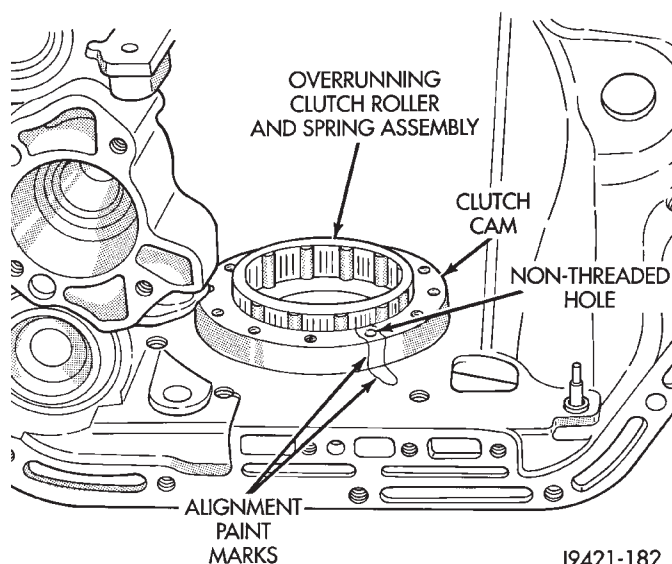

Fig. 123 Overrunning Clutch Cam Alignment
(2) Mark location of non threaded hole in clutch cam and blank area of case with paint stripe (Fig. 123).
(3) Align and install overrunning clutch cam in case (Fig. 123). **Be sure cam is correctly installed. Bolt holes in cam are slightly countersunk on one side. This side of cam faces rearward (toward rear support).**
(4) Partially install overrunning clutch in cam (Fig. 123).
(5) Verify that non threaded hole in clutch cam is properly aligned (Fig. 123). Check alignment by threading a clutch cam bolt into each hole. Adjust cam position if necessary before proceeding.
(6) Seat overrunning clutch in clutch cam after verifying correct cam alignment.
(7) Install overrunning clutch cam bolts. **Clutch cam bolts are shorter than rear support bolts.** Tighten cam bolts to 17 N·m (150 in. lbs. or 13 ft. lbs.) torque.